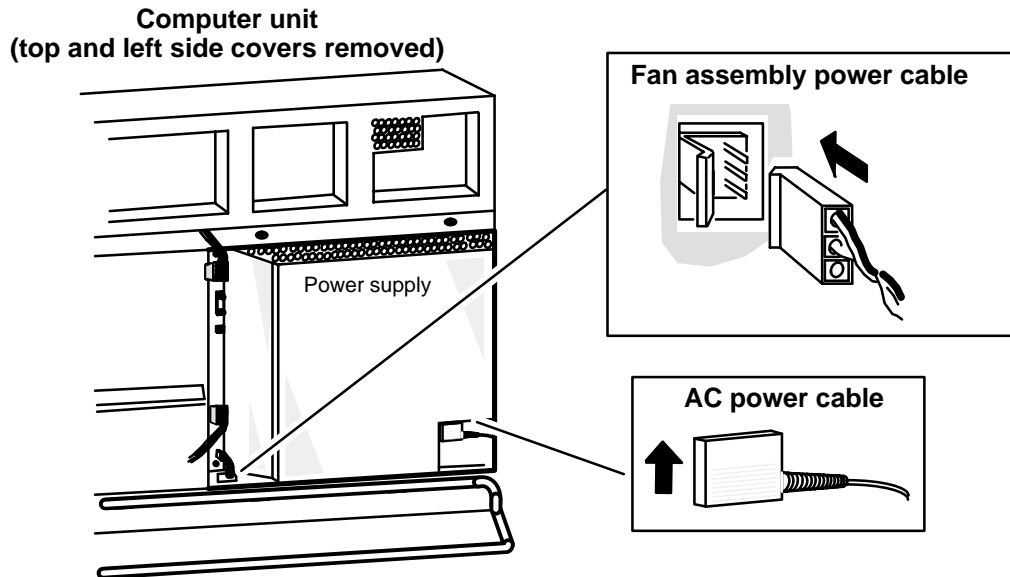

Figure 12-9 Connecting the Fan Assembly Power and the AC Power Cables
6. Plug the fan assembly power and the ac power cables to the power supply as shown in Figure 12-9.